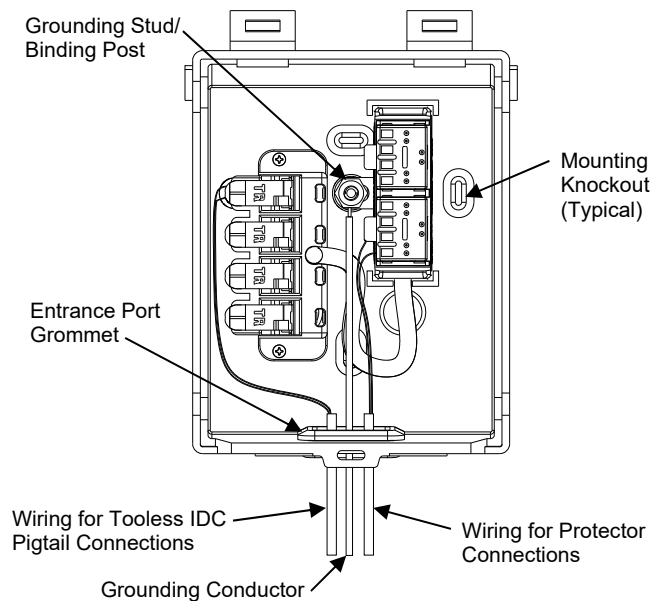

Figure 4
4. Terminate one end of the grounding conductor (No. 6 AWG) on the ground stud / binding post and the other end to an appropriate ground source (See Figure 4).
- The TII 372S-4G-IDC-1 Outdoor Enclosure consists of one protector module with a sealed toolless IDC pigtail in a top hinged enclosure with integral ground stud (See Figure 4).
- A flexible grommet is located in the center of the base to provide a seal for conductor wiring. (See Figure 4.)
- Insert the grounding conductor and all wiring through the entrance port grommet in the base of the enclosure (See Figure 4).
- Terminate one end of the grounding conductor (No. 6 AWG) on the ground stud / binding post and the other end to an appropriate ground source (See Figure 4).